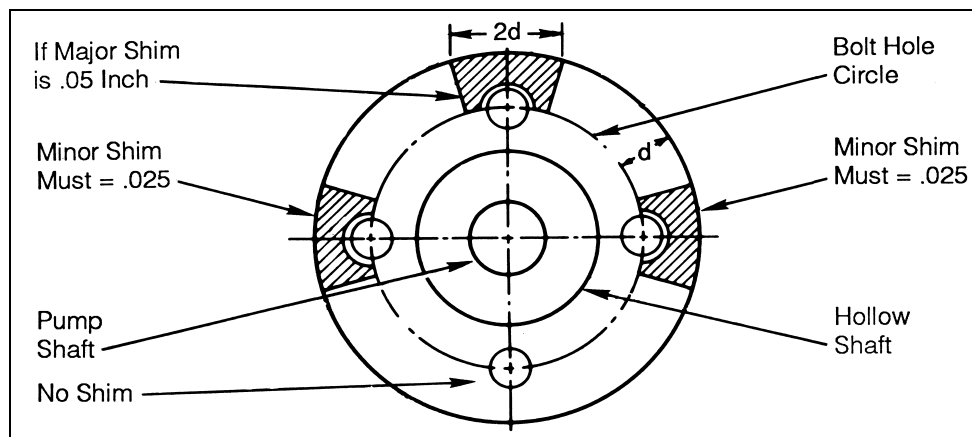

Figure 3
5. Shim flange faces if necessary (Figure 3).
To avoid the possibility of twisting the flange when shimming between the flanges, minor shims should be one-half the thickness of the major shim. Shims should not penetrate deeper than the bolt hole circle and not be wider than twice the penetration distance (Figure 3).